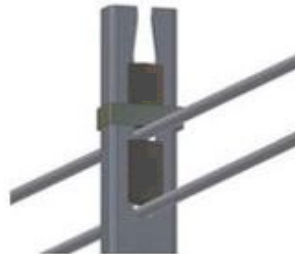

Figure 10
4. Place the middle cable on top of the spacer and place a post strap (PN-5824T) on the post on top of the middle cable (See Figure 10) and use the same type of spacer that was placed on top of the bottom cable.